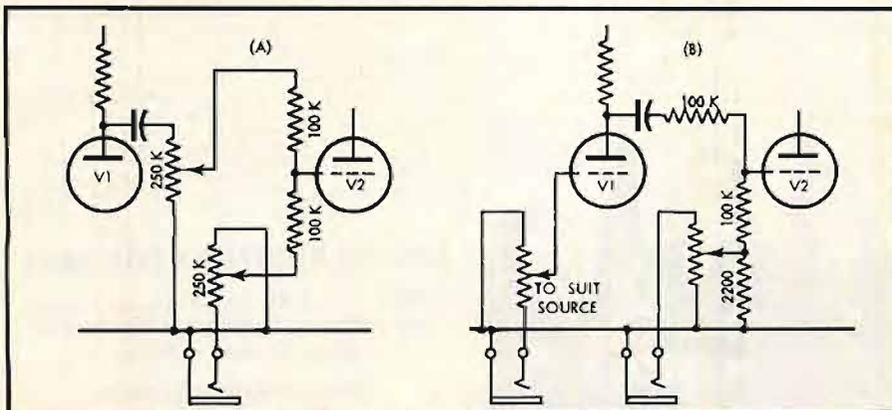
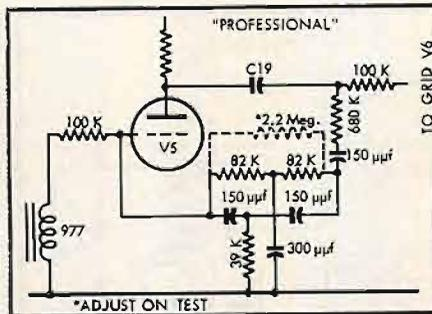

Fig. 12. Two types of mixer circuits.
Fig. 13. Equalizer used in "professional" models.
(A) and (B) of Fig. 12 permits of mixing two sources, while Figs. 13 and 14 give useful means of replay equalization, Fig. 13 in particular allowing very sharp peaking at any selected frequency, for use with restricted range recorded tapes. The formula and details will be found in the November, 1957, issue of AUDIO, but damping of the network by a resistor—2.2 megohms in drawing—selected according to requirements, may be necessary.